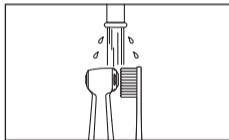

Fig. 10
- 1 Clean the external surfaces of the handpiece with a soft bristled toothbrush for 15 seconds or more. (Fig. 10)